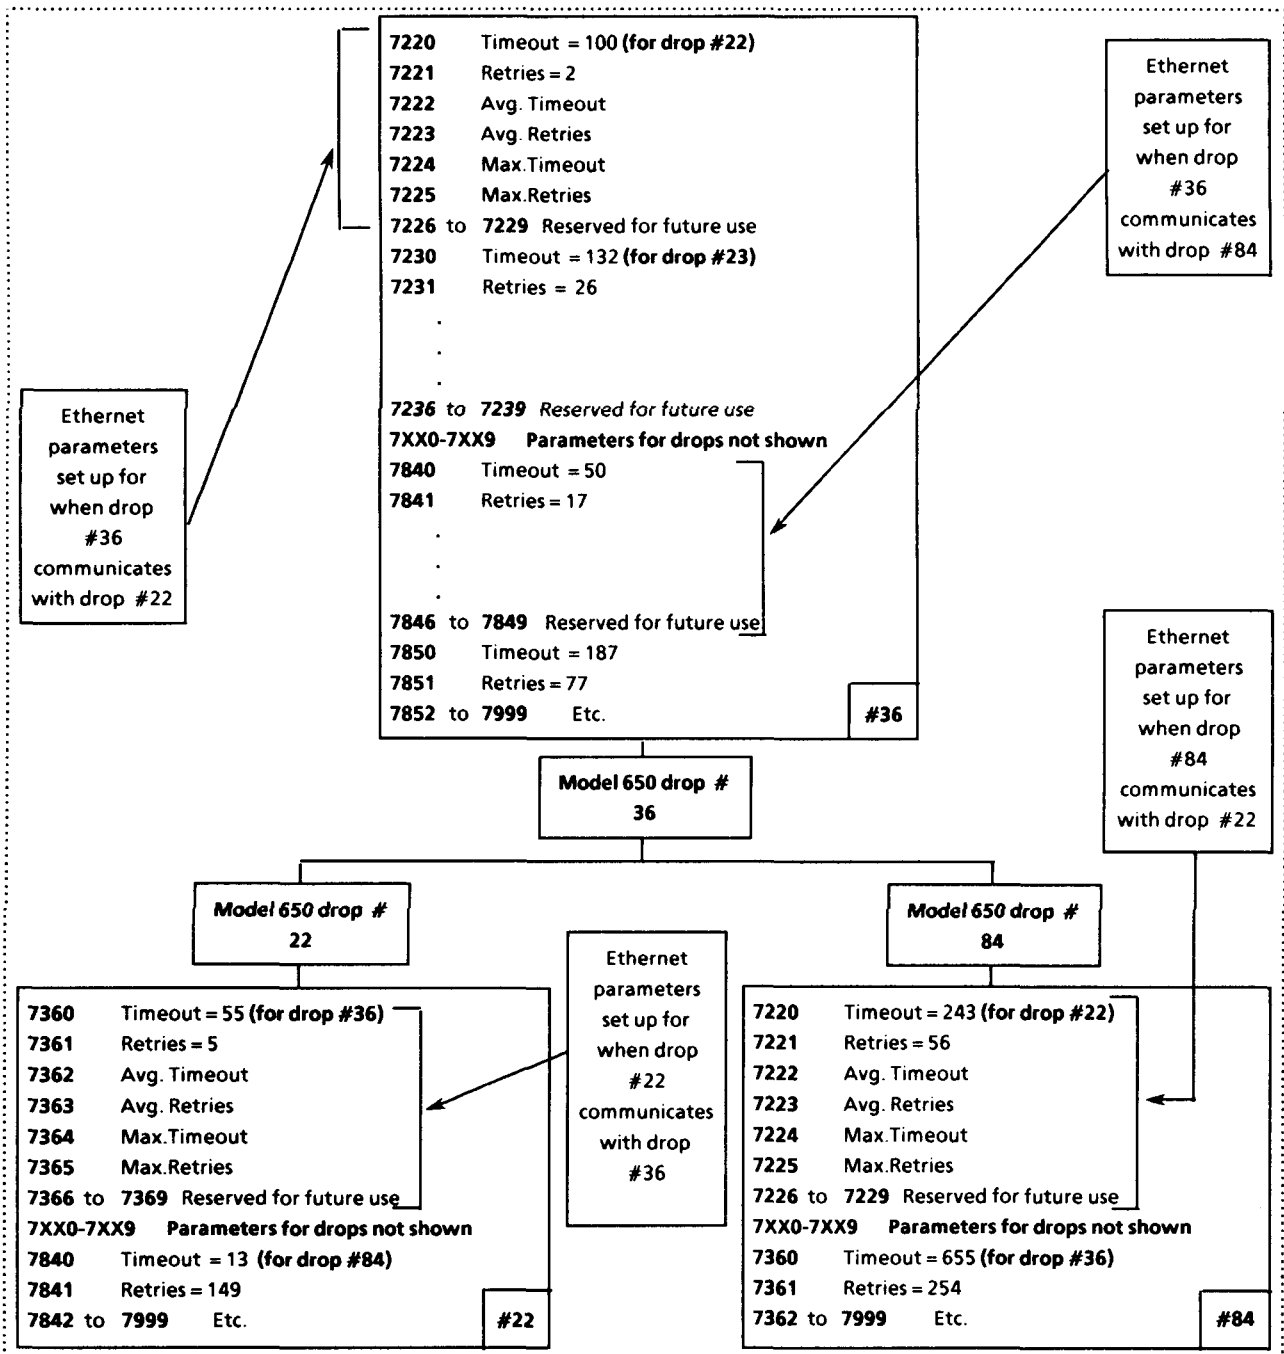

Figure 15.11 Examples of Ethernet parameters set up on Registers 7XX0-7XX9
Figure 15.11 represents 3 SY/MAX drops with 1000 read/write registers each (7000-7999) available for network parameters.
For instance, at the top center of Figure 15.11, the timeout time was left at the default of 100 (register 7220) for communications between drop #36 to drop #22. And the number of retries (2) is also left at the default set in register 7221. So the timeout time is 100 units (also the default) or 100 X 10 ms or 1 second. Register 7221 also specifies that the message will be transmitted once and then retried twice, if necessary, until it is acknowledged by drop # 22.
The box on the bottom left of Figure 15.11 represents drop #22's Ethernet network parameters. The timeout time of 55 is set in register 7360 for when drop #22 communicates with drop #36. The number of retries is set in register 7361 for drop #22 to retry another 5 times, if necessary, until it receives an acknowledgment. The remaining parameters in registers 7362 through 7369 contain transmission performance data. So all drops may have their 1000 registers (10 per drop) set up for each of the 100 drops. However, if values are not placed in the registers, they will default to the values shown in Table 15.7.